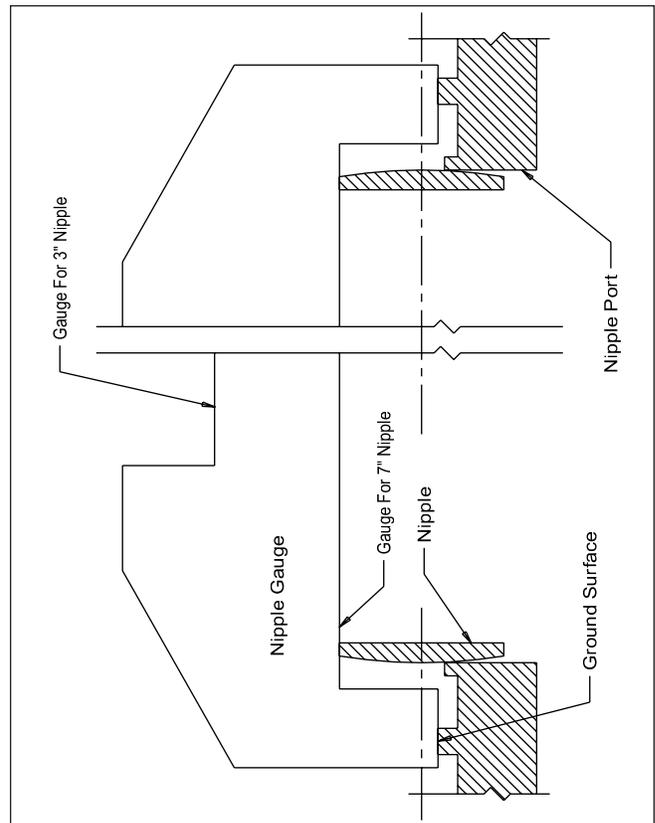

Figure 6: Nipple Gauge
- g. A special nipple setting gauge is provided for the nipples. Gauge nipple in both directions to insure that it is driven to the proper depth into the nipple opening (nipple port). Cut-out in gauge must rest on nipple, with legs of gauge touching finished face of section, when nipple is properly driven. See Figure 6.